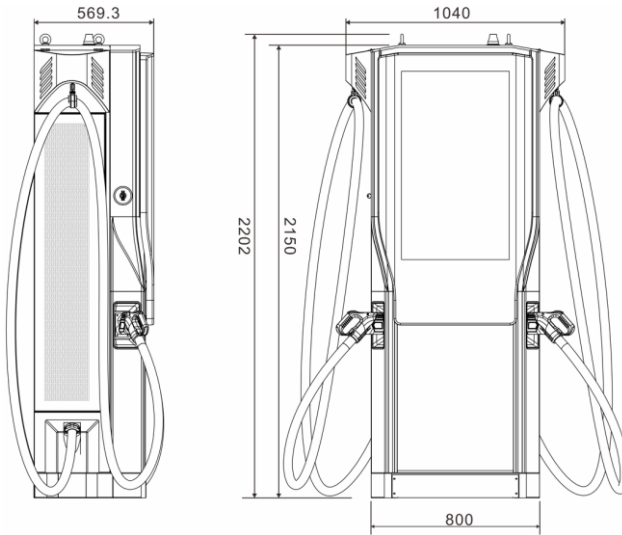

Fig. 4-1 The shape & dimensions of SONEIL SPARK
- The shape & dimensions of SONEIL SPARK DC Fast charging station shown as Fig. 4-1.